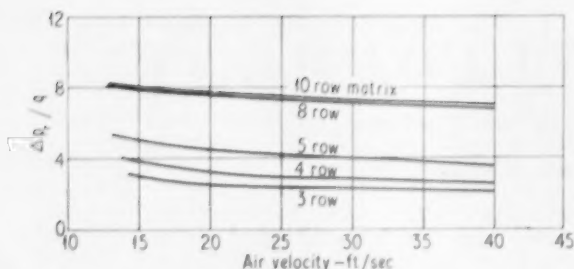

Fig. 2. Curves, derived from Fig. 1, showing how $\Delta p/q$ increases as the velocity is reduced
From (1), it can be seen that if ρ is constant and D is proportional to v^2 , C_d will be constant irrespective of the velocity. Also, since the values of A , D and v should ensure similarity, C_d of the model should equal C_d of the prototype, were it not for the fact that values of $\Delta p_r/q$ increase as the velocity is reduced, Fig. 2. This means that to obtain similar conditions, the type of flow, laminar or turbulent, should be exactly the same with the model as with the prototype. This requirement can be met by maintaining identical values of Reynolds number, Re , defined as: